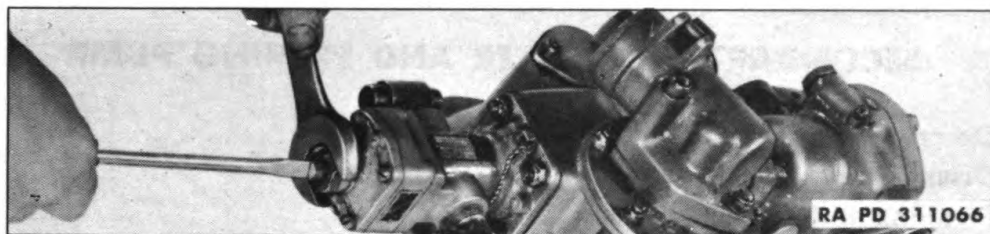

Figure 71 – Adjusting Transfer Pump
c. Adjust Valve. Adjust relief valve so that pump will deliver fuel at 20 to 25 pounds per square inch pressure (fig. 71).